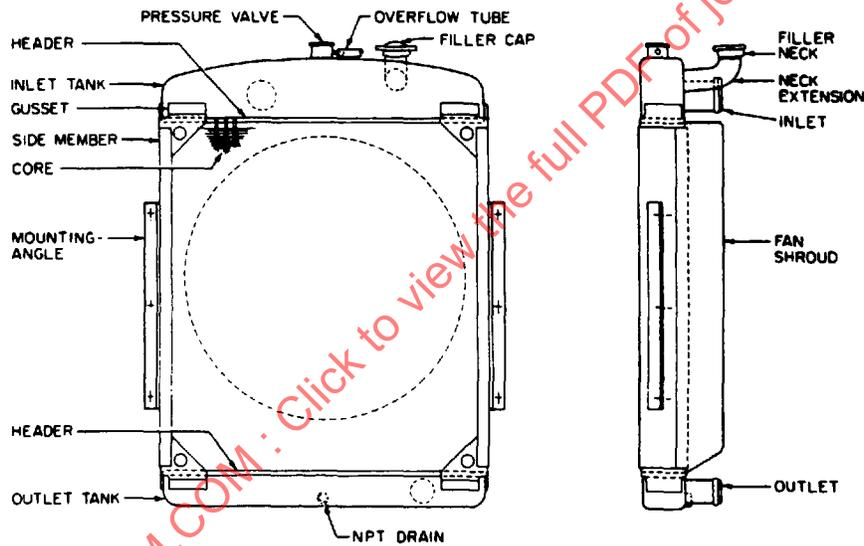

FIGURE 5—HEAVY-DUTY RADIATOR, SHEET METAL TYPE
- 4.3 Radiator Cap, Solid**—A removable device which closes the cooling system fill opening (filler neck). When installed, it permits no leakage under any cooling system operating condition. It must be used in combination with a radiator pressure relief valve. See "Filler Cap" in Figures 5 and 8.
- 4.5 Radiator Pressure Relief Valve**—A device which provides the same features and functions as a radiator pressure cap except that it is not used for system filling. (Some hand tools are required for the removal of this valve.) It must be used in combination with a radiator cap, solid. See "Pressure Valve" in Figures 5 and 8.